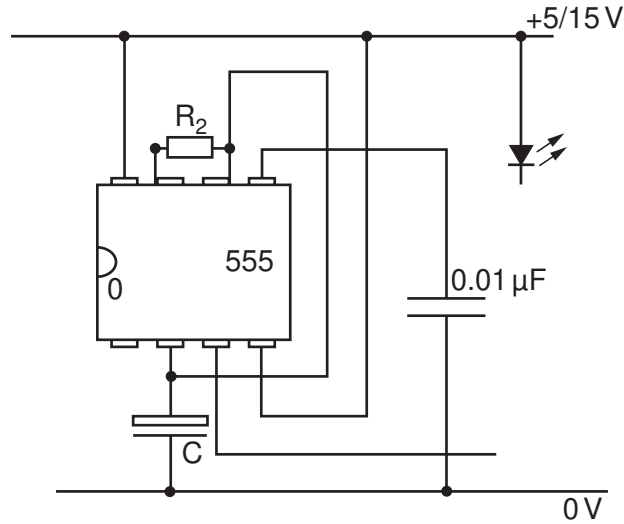

Fig. 11
- (i) Complete the circuit diagram in Fig. 11 to show a suitable circuit to make the light flash on and off automatically. [6]
- (iii) Name the type of light device that is used in the circuit shown in Fig. 11.